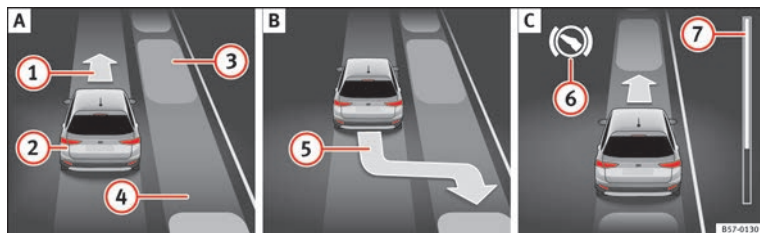
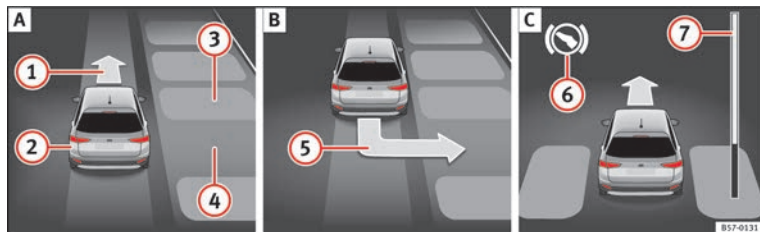

Fig. 212 On the instrument panel display: parallel parking. **A** Finding a parking space. **B** Parking position. **C** Manoeuvring.
Fig. 213 On the instrument panel display: perpendicular parking. **A** Finding a parking space. **B** Parking position. **C** Manoeuvring.
Key to **Fig. 212** and **Fig. 213**:
» **Fig. 212 ⑦** and » **Fig. 213 ⑦** on the screen of the instrument panel displays the relative distance to be covered. The greater the distance, the fuller the progress bar. When driving forward, the content of the progress bar decreases upwards, and when reversing, it decreases downwards.
2.	Look at the display on the instrument panel to see if the space has been detected as “appropriate” and if the correct position for parking has been reached » Fig. 212 [B] or » Fig. 213 [B]. The space is considered “appropriate” if the display on the instrument panel shows the message to park [5].
5.	Please note the following message: Active automatic steering. Watch out around you. While you keep watch around you, carefully start accelerating up to no more than 7 km/h (4 mph). During the parking manoeuvre, the system only takes charge of the steering. You, as the driver, have to accelerate, engage the clutch if necessary, change gears and brake. Reverse until the ParkPilot continuous signal is heard. OR: reverse until the instrument panel displays the message to go forwards » Fig. 212 [A] ① or » Fig. 213 [A] ①. OR: reverse until the instrument panel displays the message Park Assist finished. The progress bar [7] indicates the distance to cover » page 233.
9.	Go forward until the ParkPilot continuous signal is heard. OR: go forward until the instrument panel display shows the message to reverse. The Park Assist system steers the vehicle forward and back until it centres it in the space » Fig. 212 [C] or » Fig. 213 [C].